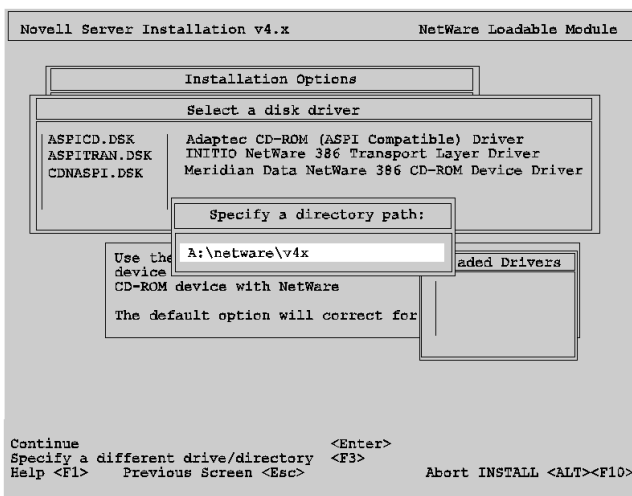

figure 8-2 Specify Initio Driver Path
- Press the **<F3>** key to specify a different source drive/directory (figure 8-2).